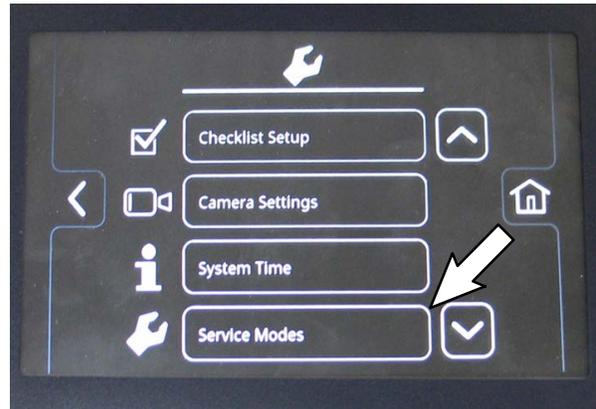

FIG. 28
3. Select the Service Modes button to access the service modes. If necessary use up and down arrow buttons to scroll to the Service Modes button. (Fig. 28)